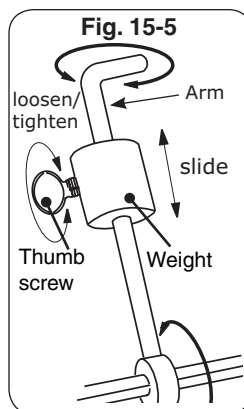

Fig. 15-5
9. Slide the counterbalance weight up or down until the rod rotates most evenly then tighten (Fig. 15-5).